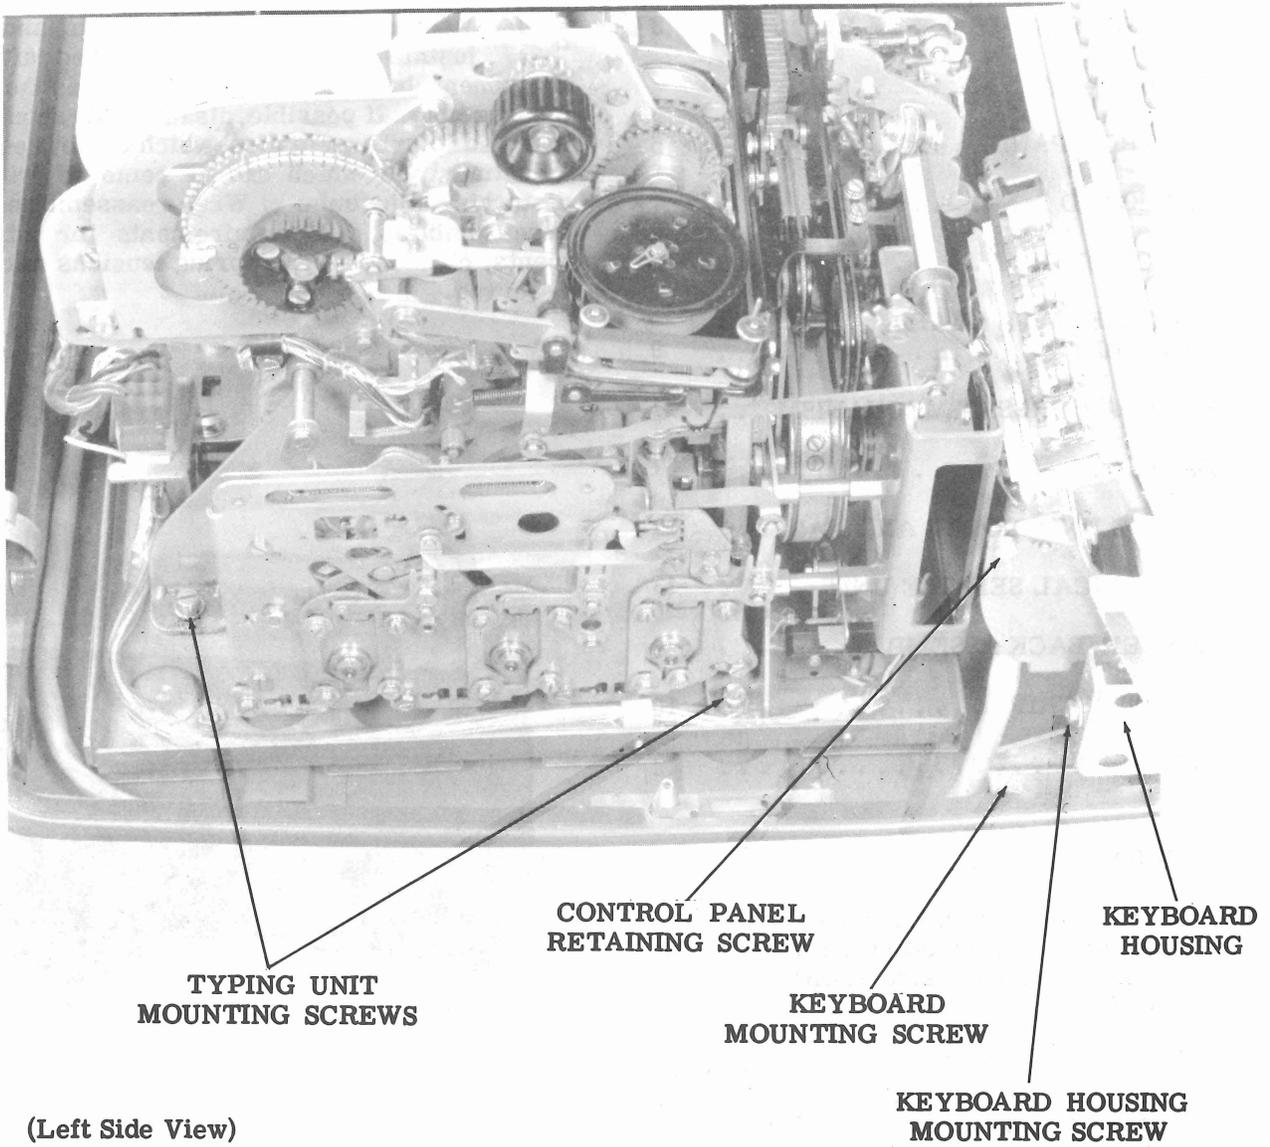

Figure 2 - Typing Unit and Control Panel
2.01 To remove the typing unit from the base, proceed as follows (Figures 2 through 4).
2.02 To replace the typing unit, proceed as follows (Figures 2 through 5).
2.03 To remove the control panel, proceed as follows (Figures 2, 3, 6, and 7).
2.05 To remove the keyboard from the base assembly, proceed as follows (Figures 2, 3, and 6).